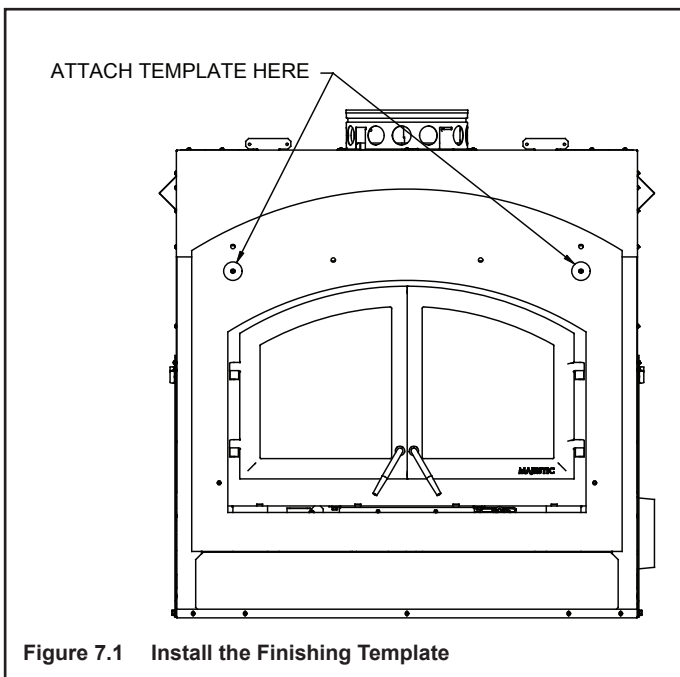

Figure 7.1 Install the Finishing Template
- Install the template on the front of the fireplace (Figure 7.1) with screws removed or provided.